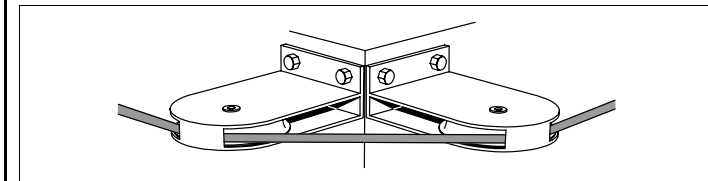

Fig. 3: Changing the direction of the rope
- If the rope goes round a corner, mount a pulley wheel on either side of the corner (see Fig. 3).